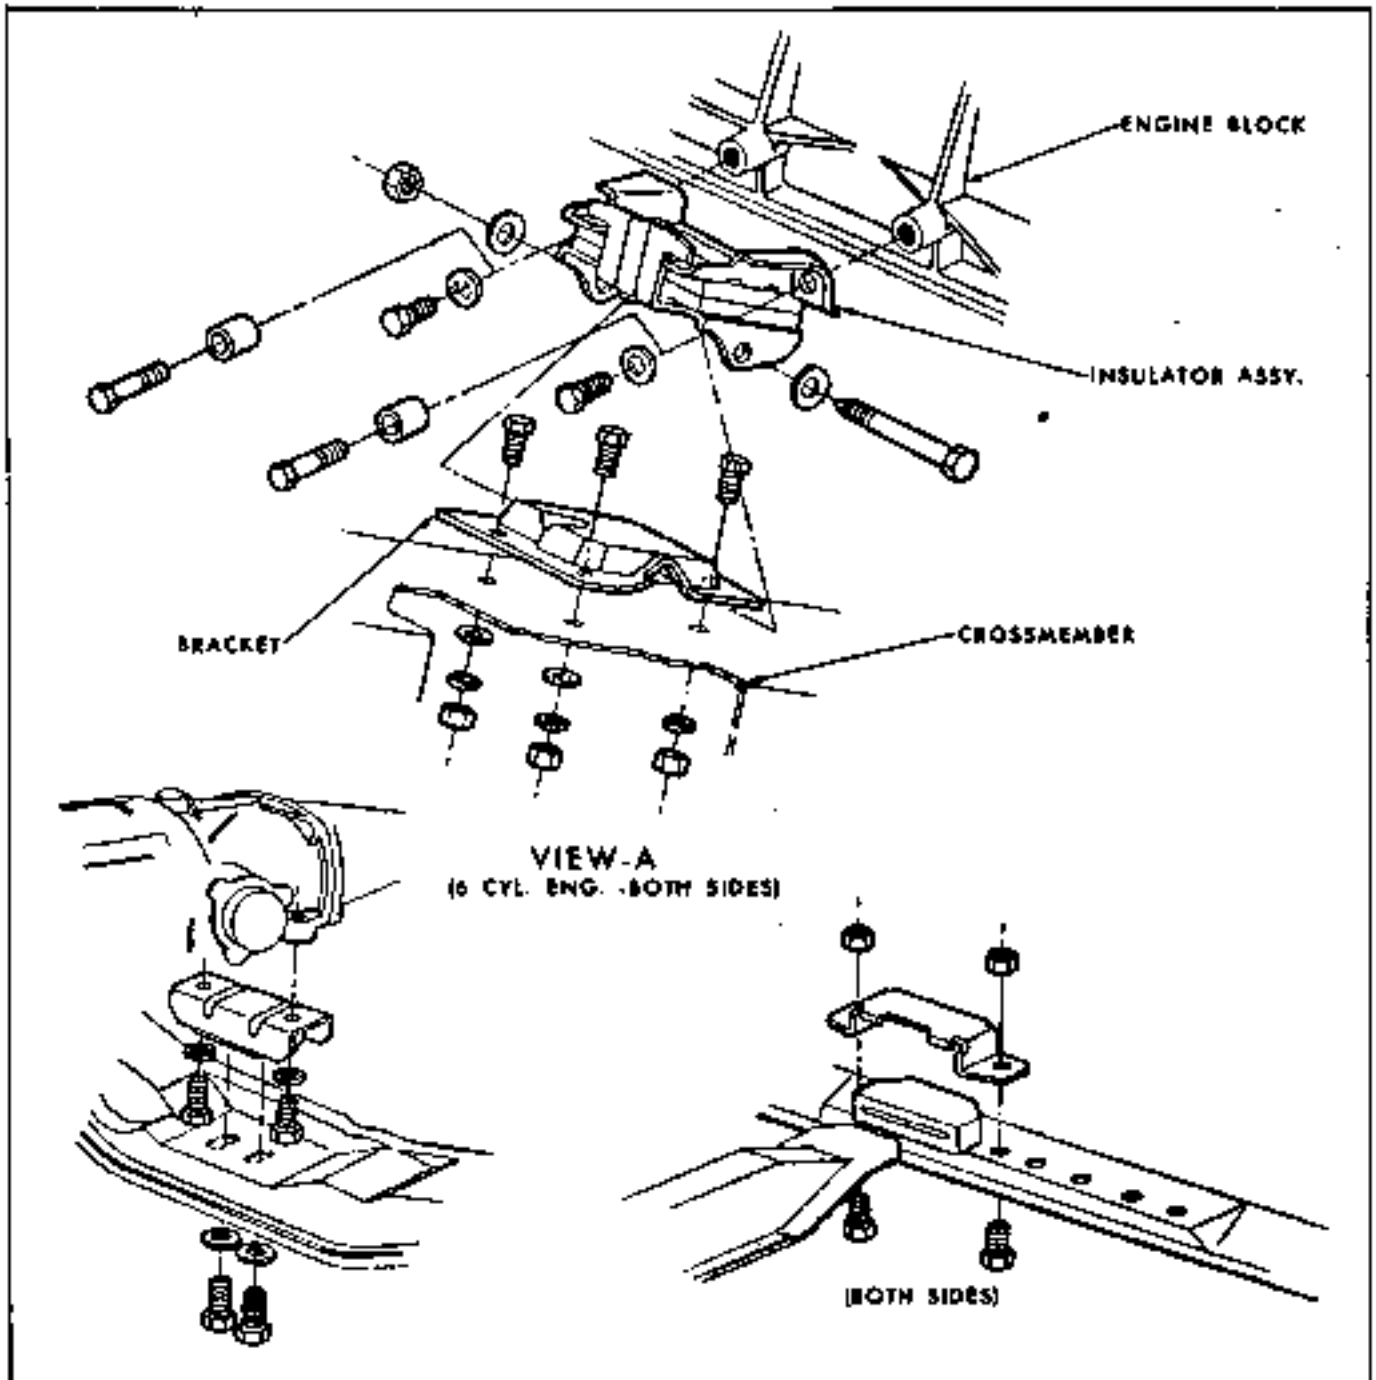

Fig. 6-8 6 Cyl. Engine Mounting-Tempest
3. Remove insulator to bracket bolts (Fig. 6-8).